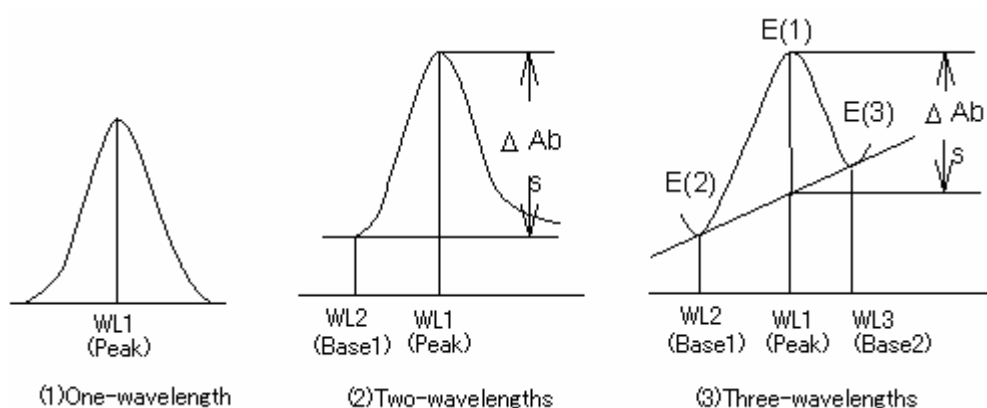

Figure 6.6 Difference in Quantification Method Based on Type of Baseline
[Method]	Number of quantification wavelengths. Select the desired number of wavelengths to fit the baseline according to the sample condition. No Base (1 wavelength) : Used for a normal solution sample (see Fig. 6.6 (1)). 1 base (2 wavelengths) : Used for a spectrum with a floating baseline. (see Fig. 6.6 (2)). 2 base (3 wavelengths) : Used for a spectra with inclined baselines. (see Fig. 6.6 (3)). When using the three-wavelengths quantitation method, the absorbance can be found by the following function. $\text{Abs} = E(1) - \frac{ WL1 - WL2 \cdot E(3) + WL3 - WL1 \cdot E(2)}{ WL3 - WL2 }$
[Method]	The number of quantitative wavelengths. The desired number of wavelengths is selected from 1 wavelength, 2 wavelengths or 3 wavelengths to match the sample properties. No Base (1 wavelength): used for a normal solution sample (see Fig. 6.6 (1)) 1 Base (2 wavelengths): Used for a sample with a floating baseline (see Fig. 6.6 (2)). 2 Base (3 wavelengths): Used for a sample with an inclined baseline (see Fig. 6.6 (3)). When using the three-wavelengths quantitative method, the absorbance can be found using the following function: $\Delta \text{ Abs} = E(1) - \frac{ WL1-WL2 \cdot E(3) + WL3-WL1 \cdot E(2)}{ WL3-WL1 }$